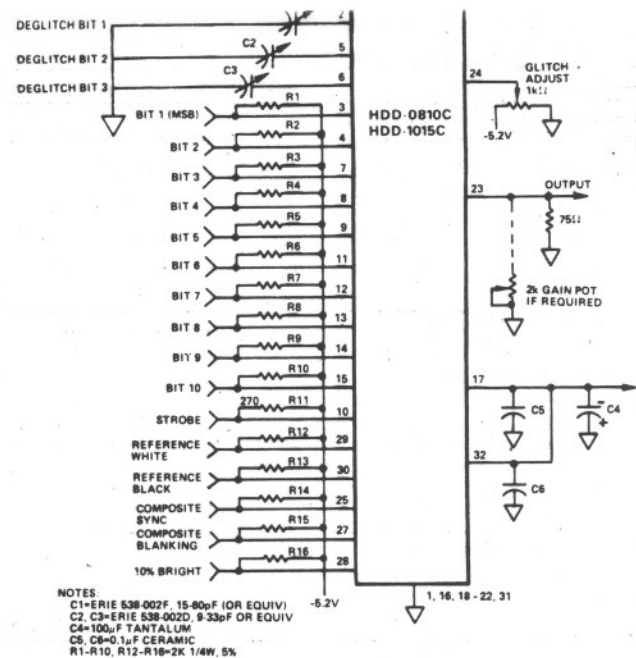

Figure 1. HDD-0810, HDD-1015C Typical Hook-Up Circuit
3. High frequency bypassing should be provided by ceramic capacitors of $0.1\mu\text{F}$ or larger mounted within 0.25 inches of Pins 17 and 32 to ground (see Figure 1).
4. The threshold of the internal current switches can be optimized for low glitch energy by the addition of an external potentiometer connected to Pin 24 of the D/A (see Figure 1). This potentiometer is adjusted for minimum glitch energy as shown in Photo 2.
If required, variable capacitors can be added to "deskew" the most significant bits for lowest glitch—although this is not usually required in many applications. These capacitors are added as shown in Figure 1 (C1-3). They are adjusted in conjunction with the glitch adjust pot for minimum glitch energy as shown in Photo 2.
The HDD Series D/As are actively laser-trimmed to provide a voltage into exactly 75Ω which is an even binary multiple; i.e., the HDD-0810 has an LSB of 4mV and the HDD-1015 has an LSB of 1mV . This makes the full-scale output slightly greater than one volt. If an output of exactly one volt is required—such as for TV reconstruction—a 2k potentiometer may be placed across the output of the D/A for gain adjustment. For a one volt output, the adjusted value of this pot will be about 1500Ω (see Figures 1 and 5).